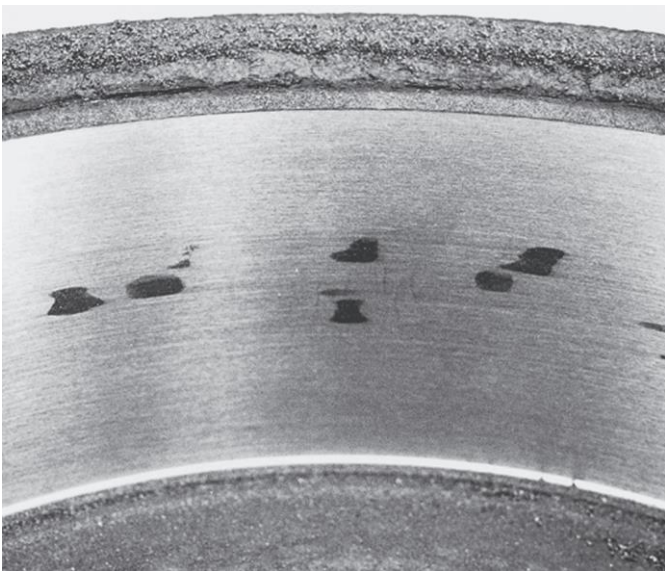

Figure 11. Hard spots require the replacement of the drum.
- Hard spots are roughly circular, bluish gold, glassy-appearing areas on the friction surface. Most vehicle manufacturers recommend that the drum or rotor should be replaced if hard spots are found. Figure 11.